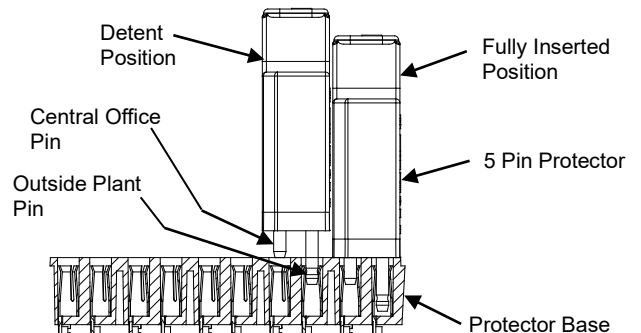

Figure 3
1. For 5 Pin Protector modules that come with test points, and with the 5 Pin Protector fully seated, insert the test clips into the tip and ring test port access holes located at the top of the module. This will test the outside plant (Telco) connections. Perform the customary tests (See Figure 3).
2. To test the central office (customer premises) you must put the module in the detent position. Then insert the test clips into the tip and ring test port access holes located at the top of the module. Perform the customary tests (See Figure 3).
1. Install the required 5 Pin Protector Module required (not included) into the unit, in line with the corresponding wired rocker terminations (See Figure 3).
2. Plug the 5 Pin Protector Module into the Protector Module Mounting Field (See Figure 3). The Protector Modules and the Protector Module Mounting fields are keyed to install only one way. To connect and protect the central office side and outside plant cable pair, the module must be fully inserted. The ground pin will provide continuity to the connector base ground terminal in both the fully inserted and detent positions.